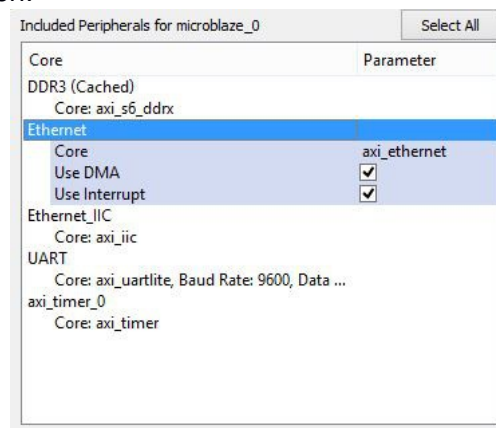

Figure 2
**Step 3:** Select the peripheral as shown in the Figure 2. Also enable the interrupt of Ethernet\_IIC and axi\_timer. Once done press finish.